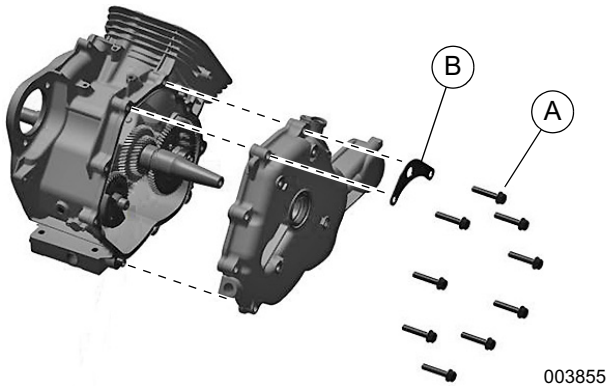

Figure 14-35. Install Gear Cover Assembly
1. See Figure 14-35. With crankcase assembly placed on flywheel side (not shown), install gear cover assembly using nine fasteners (A) and lift hook (B; located at top two holes).